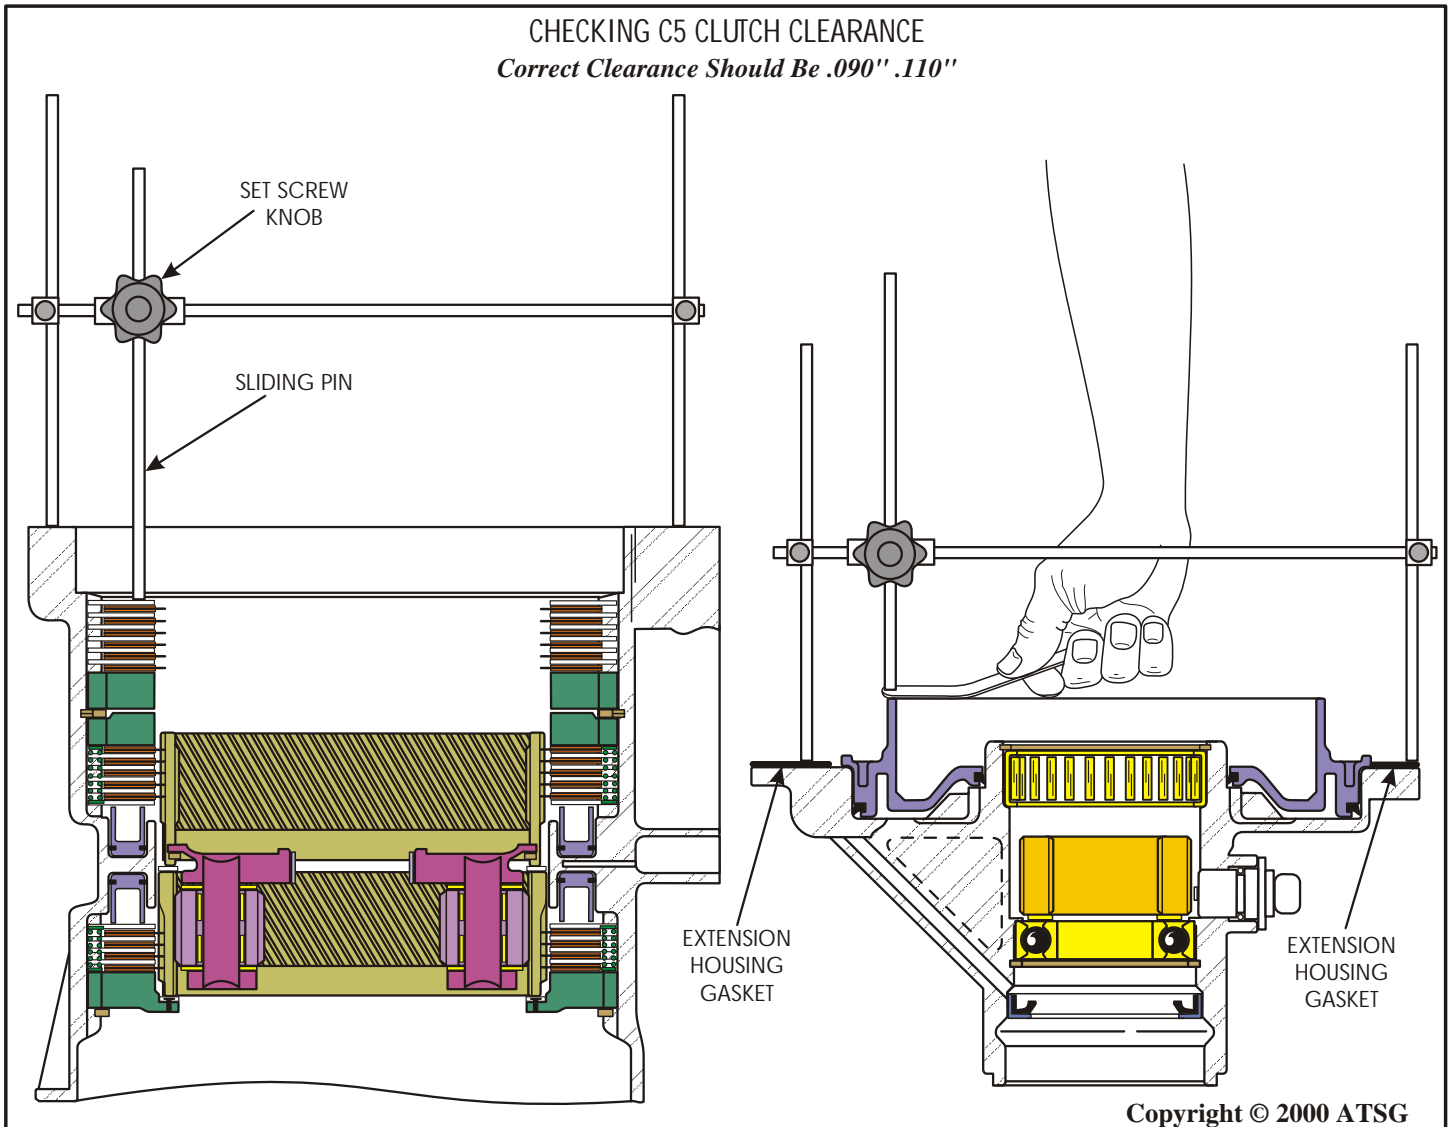

Figure 155
19. Place the pre-assembled extension housing on flat work surface with the piston facing up, as shown in Figure 155.
20. Place the extension housing to case gasket on the extension housing as shown in Figure 155.
Note: This step is important as the gasket thickness must be included in the equation for C5 clutch clearance (See Figure 155).
21. Place the "H" gage on the transmission case, as shown in Figure 155.
22. Loosen the set screw knob and allow the pin to go down so that it is resting on the top steel plate, as shown in Figure 155, and re-tighten set screw knob with pin in this position.
23. With the set screw knob tight carefully turn the "H" gage over and set it on extension housing gasket, with the sliding pin over one portion of C5 piston, as shown in Figure 155.
24. With a feeler gage check and record clearance between the sliding pin and the C5 piston, as shown in Figure 155.
25. Correct C5 clutch clearance is .090" - .110", as shown in Figure 155.